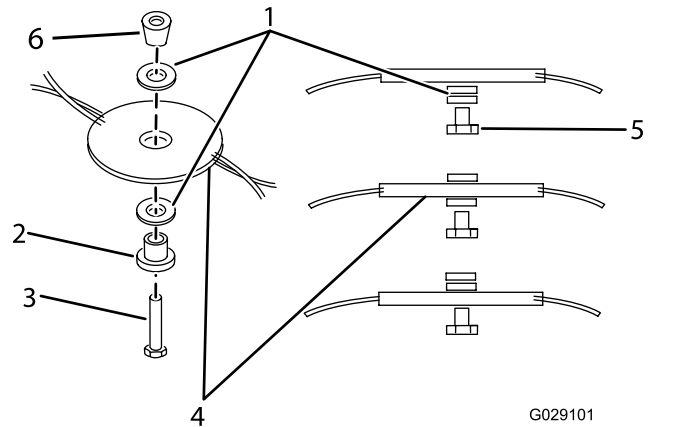

Figure 23
- Remove the cutting disc by turning the retaining bolt counterclockwise (Figure 23), saving all the mounting hardware.
- Install the cutting disc by turning the bolt clockwise (Figure 23), and installing all the mounting hardware.